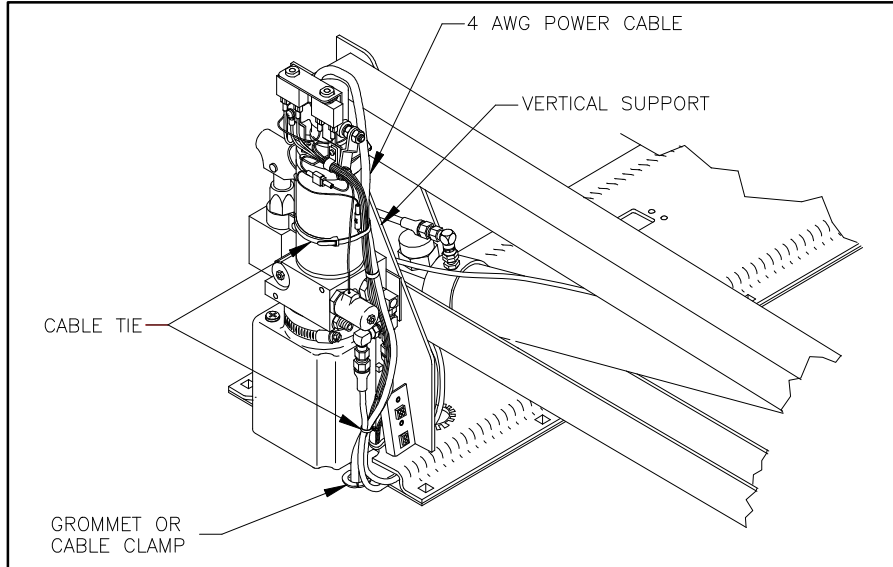

FIGURE 2-11: CABLE ROUTING
- e. Refer to **Figure 2-11**. Cut any excess wire from long cable, install remaining heavy ring terminal to unterminated end of long cable, and connect it to live side of solenoid. Be certain that red wire from main circuit breaker (if applicable) is connected to positive solenoid pole.